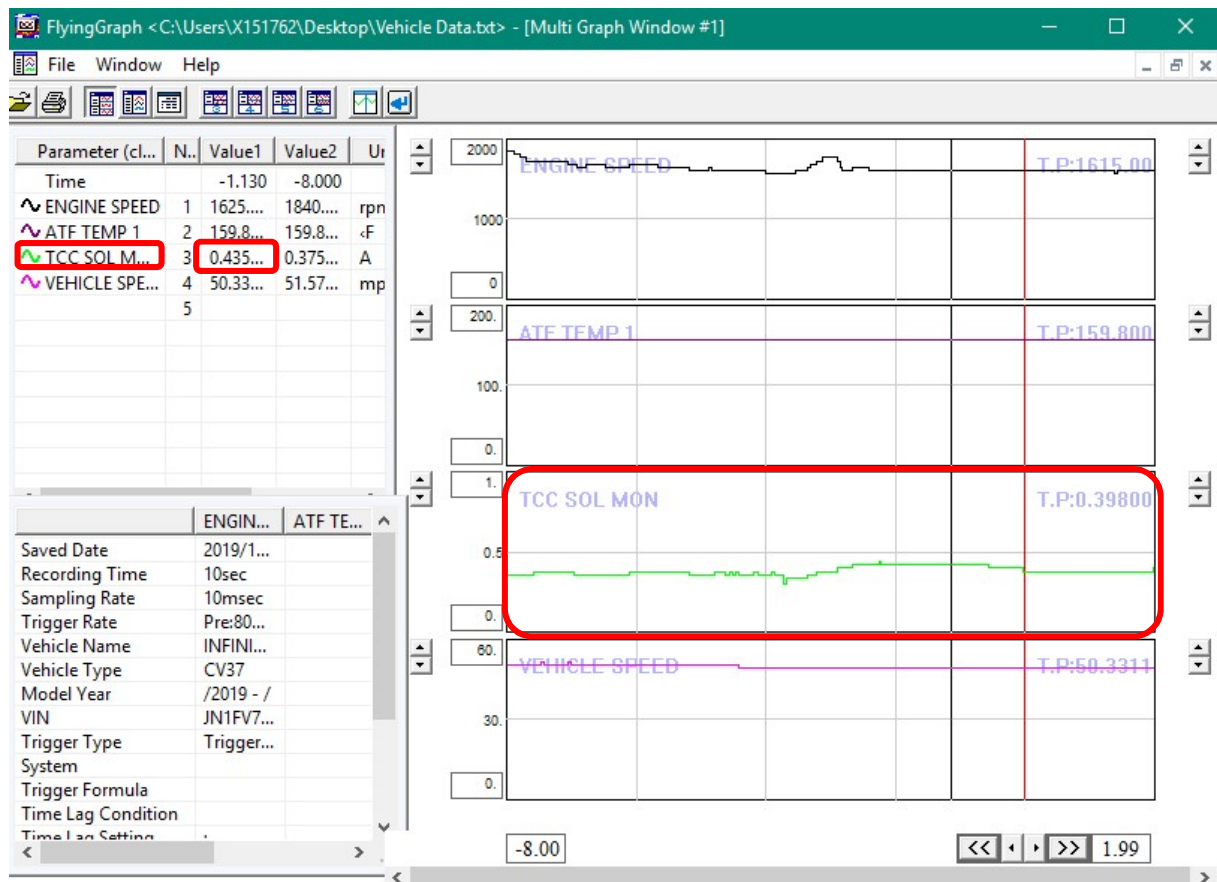

Figure 14
- Monitor "Value1" of "TCC SOL MON" (Figure 14)